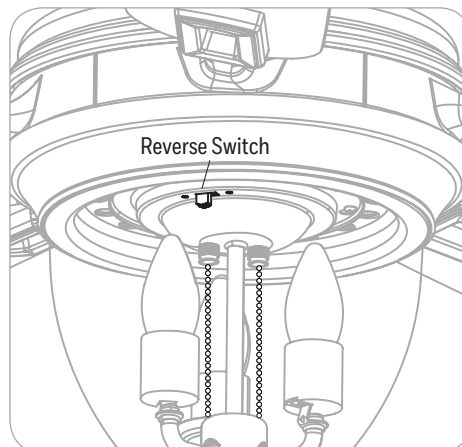

Figure 6.2
2. Use the reverse switch to optimize your fan for seasonal performance. **In warmer weather**, push the reverse switch left which results in downward airflow creating a wind chill effect. **In cooler weather**, push the reverse switch right which results in upward airflow that will help move hot air off the ceiling (Figure 6.2).